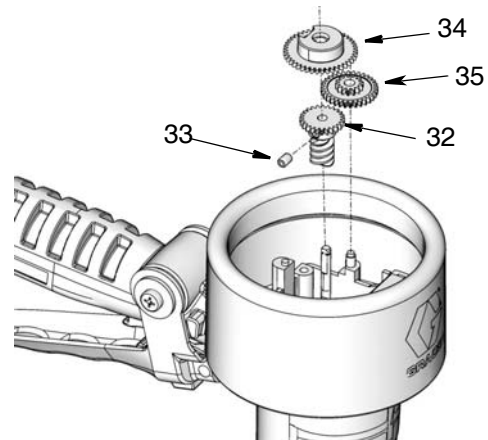

FIG. 18
6. Use a 2 mm hex wrench to remove the gear set-screw (33). Remove the gears (32, 34, 35) (FIG. 18).